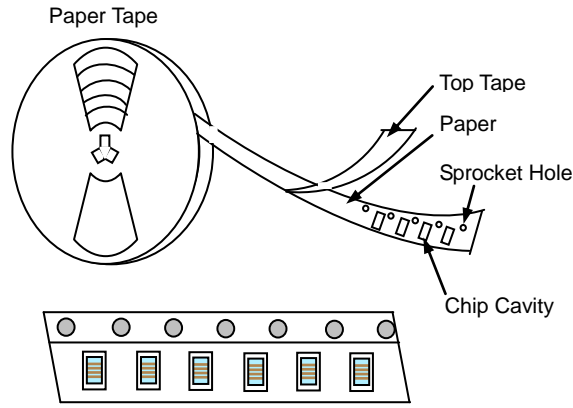

Fig. 6.1-1
- a. Tape carrier packaging are specified in attached figure **Fig.6.1-1~4**